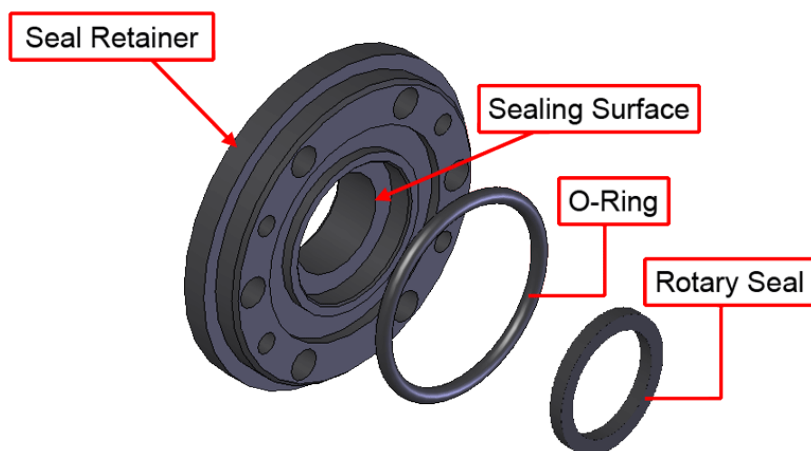
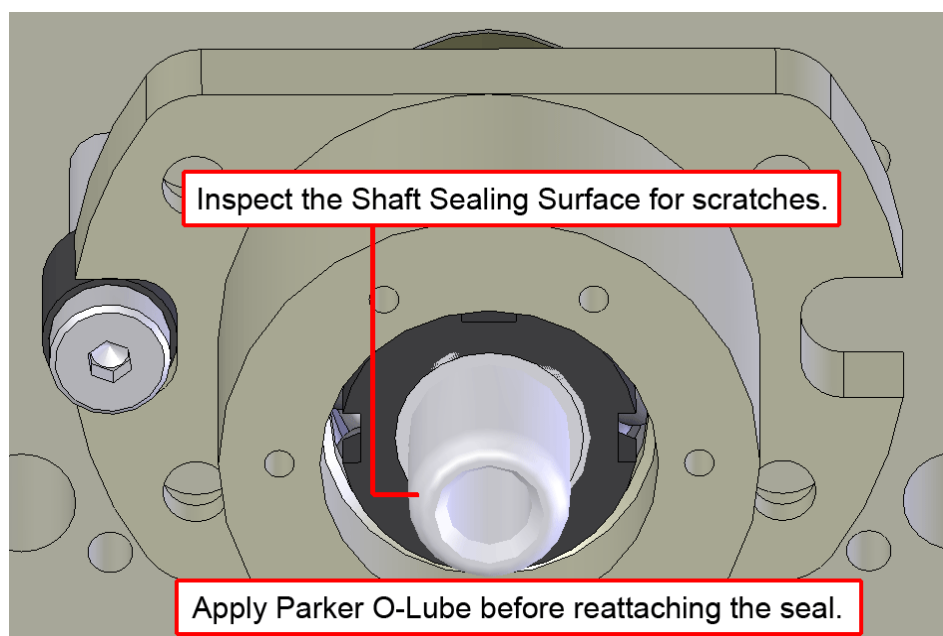

Figure 4-7: Seal Retainer Assembly
Figure 4-8: Wet Cut Rotary Union Shaft Inspection
6. Pry the rotary seal from its housing using care not to damage the sealing surfaces (see Figure 4-7). Inspect the shaft and seal surface for scratches or nicks (see Figure 4-8). Small wear marks are normal. If the shaft and sealing surface are undamaged, clean both the shaft and seal assembly surfaces with a lint-free rag and isopropyl alcohol.
9. Apply Parker O-Lube to the exposed end of the rotary union shaft shown in Figure 4-8.